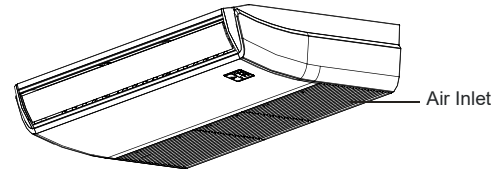

Fig.6-1
- Open the air intake with a screwdriver or similar tool. (Refer to Fig. 6-1)